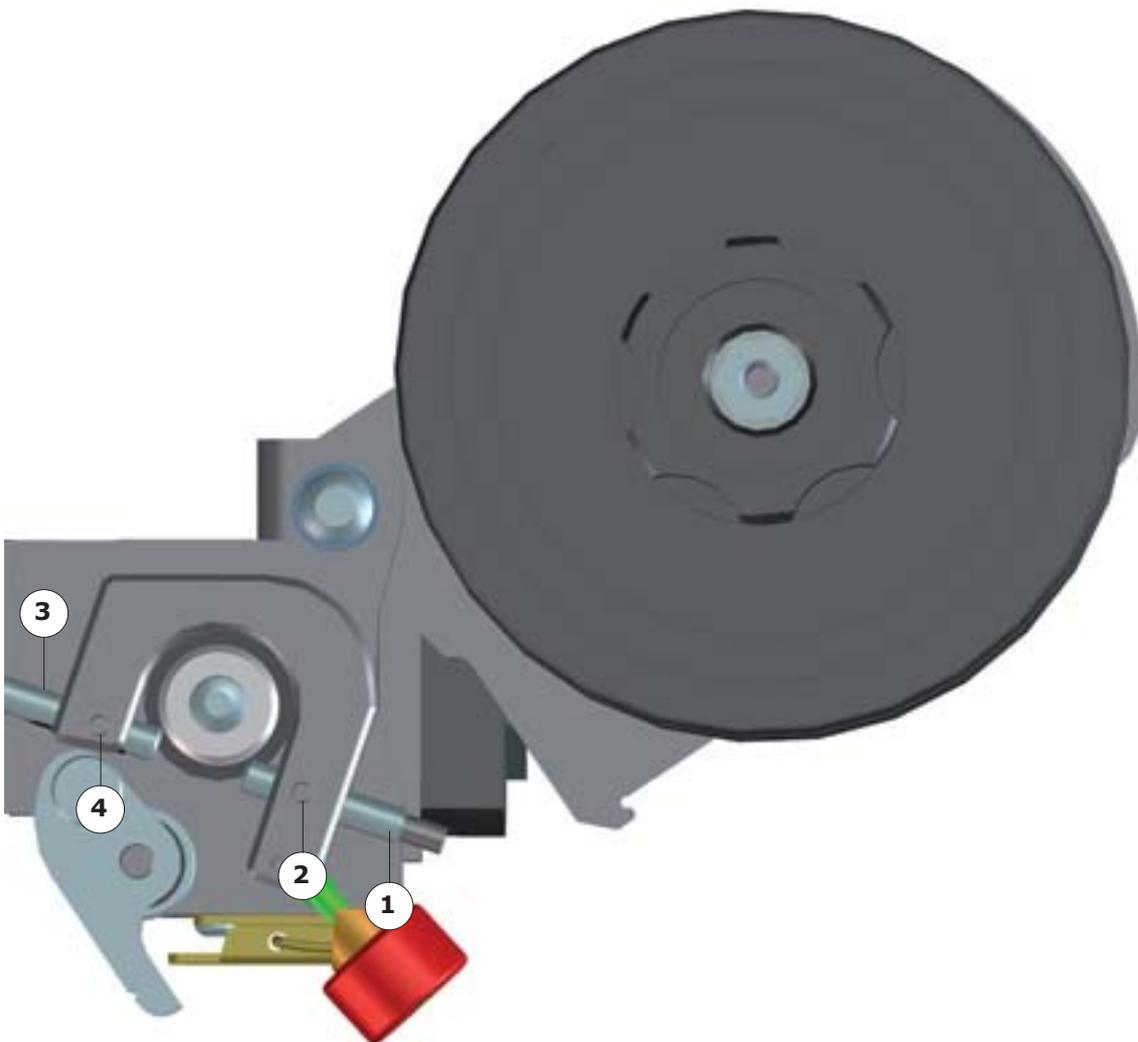

Fig.5.18 - Changing the wire sheaths on the rotating wire feeder
- For the wire feeder input sheath (Fig.5.18 - 1):
- Loosen the set screw (Fig. 5.18 - 2).
- For the wire feeder output sheath (Fig.5.18 - 3):
- Loosen the set screw (Fig. 5.18 - 4).